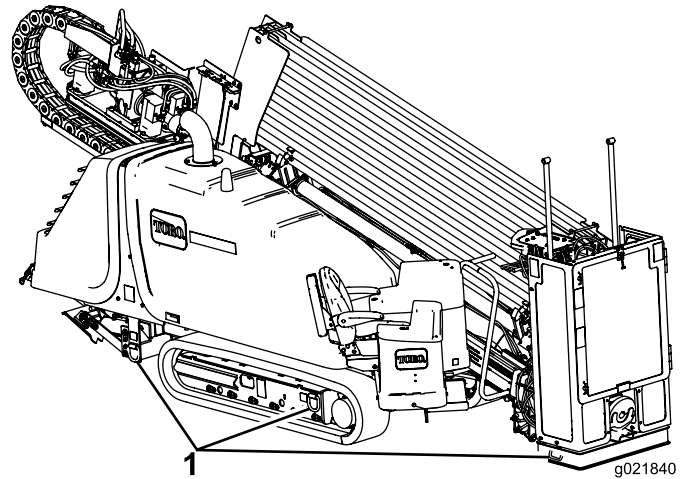

Figure 71
8. Use appropriately rated chains and binders to secure the rings on the left and right track frames and the stake-down plate to the trailer (Figure 71).